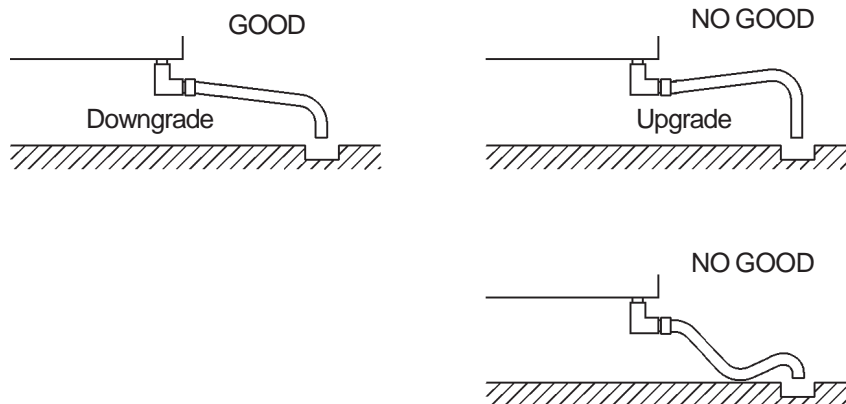

Fig. 3
- * To prevent a backflow into the Storage Bin, the outlet hose must be laid as shown in Fig. 3.
- 3) Attach grey flexible outlet hose (accessory) to the R3/4 fitting on the rear of the icemaker as indicated, confirming fitment of rubber washer before finally hand tightening the joint. This pipe can be cut to length as necessary to suit position of main drain (Fig. 3).